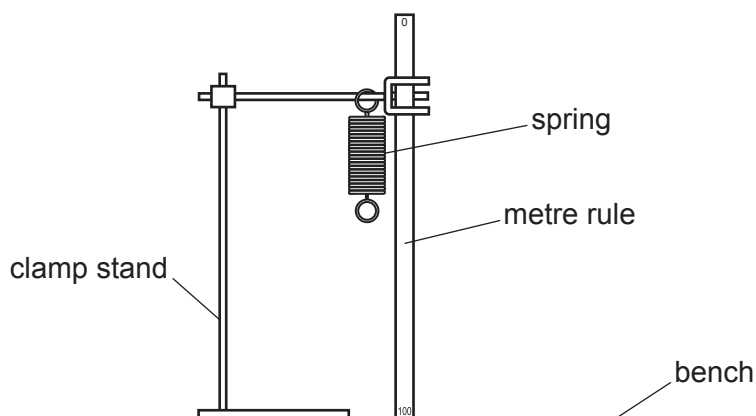

Fig. 1.1
2. The apparatus is to be set up for the candidates as shown in Fig. 1.1. The spring is to be suspended from the clamp, supported by a boss and stand. The spring must be sufficiently high above the laboratory bench so that when the 500 g mass is suspended from the spring, the bottom of the mass is above the surface of the bench.
Check that the apparatus is set up ready for the next candidate, as shown in Fig. 1.1, with the spring near to the metre rule.